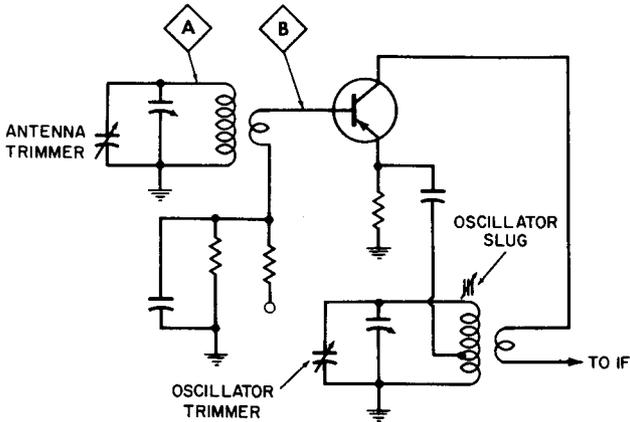

Fig. 8-1 Tracking adjustments in the mixer-oscillator.
3. Adjust the oscillator *trimmer* (across the tuning capacitor; Fig. 8-1) for maximum noise. If it occurs at one extreme of the trimmer, return the trimmer to about midway point. Then adjust the oscillator *slug* for maximum noise. (Important, do not adjust the slug unless the oscillator trimmer peaks the noise at one extreme of its adjustment.)
7. If the radio still does not track (noise peaks cannot be obtained at both ends of the dial), check the IF frequency. Set the signal generator to the IF frequency and connect it to point A or B in Fig. 8-1. Using an alignment indicator, adjust the IF transformers for maximum output. Now repeat Steps 1 through 6. If the radio still does not track, then either an antenna coil, oscillator coil, or tuning capacitor is defective. Each can